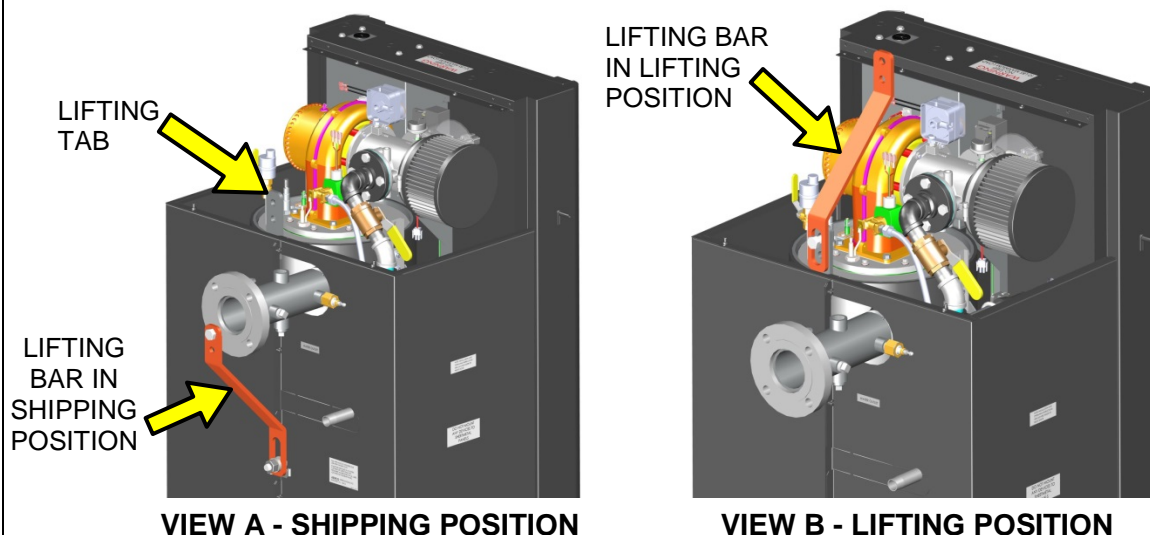

Figure 2-3a: BMK 750/1000 Boiler Lifting Provisions
Unpack and inspect the unit, then remove the four (4) lag screws securing the boiler to the shipping pallet. The boiler can be lifted and moved by inserting forklift tines in the front slots provided in the base of the unit, or it can be lifted by attaching a lifting bar to the unit's heat exchanger. A lifting bar (P/N 59174), with attaching hardware, is supplied with each unit. When shipped, this bar is attached to the rear of the unit as shown in Figure 2-3a (View A). One (1) lifting tab is provided at the top of the unit's heat exchanger as shown. This tab is used to attach the lifting bar to the unit, as described below.
1. Remove the lifting bar from its shipping location at the rear of the unit (Figure 2-3a, View A). Retain the two (2) hex head cap screws, hex nuts and flat washers.
3. Attach the lifting bar to the heat exchanger lifting tab using the hardware removed in step 1 (Fig. 2-3a, View B). The upper end of the lifting bar containing the oval cutout should be positioned over the top of the heat exchanger as shown.